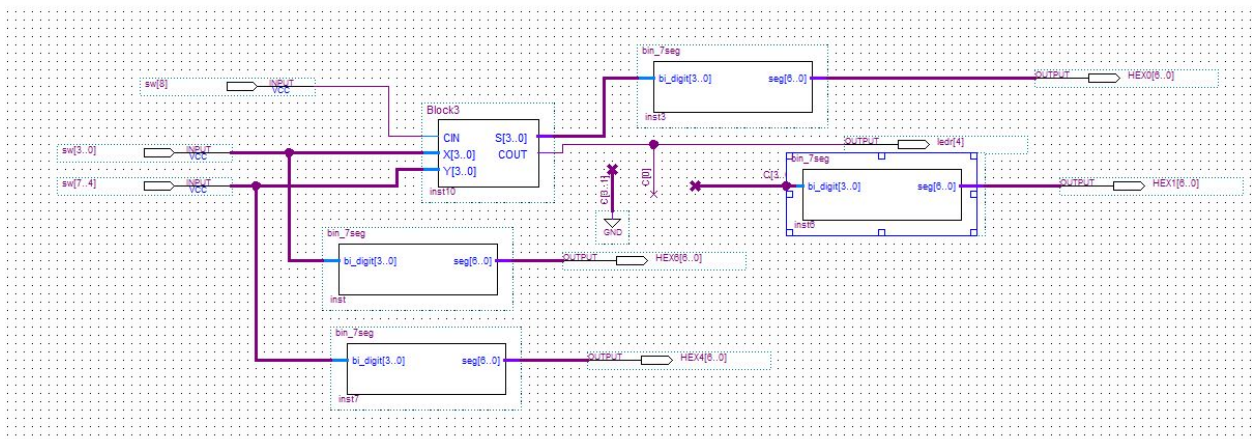

Figure 6. RCA
3. We created a symbol name RCA (as shown in Figure 6) based on the circuit that we created in last lab.